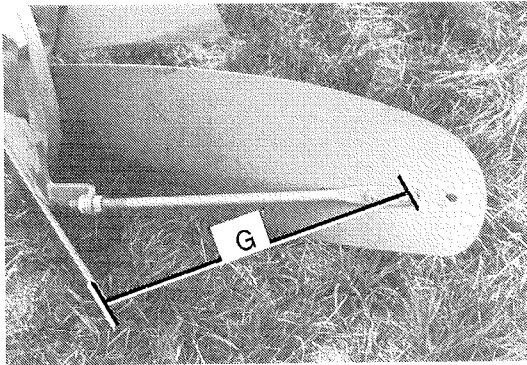

Fig. 21
1. Check the working angle of the mouldboard. The normal position is measured on the rear plough body between the extended outside line of the landside. Horizontally out against the outer screw in the mouldboard stay, see measurement **G** Fig 21. Adjust the mouldboard stay if necessary.